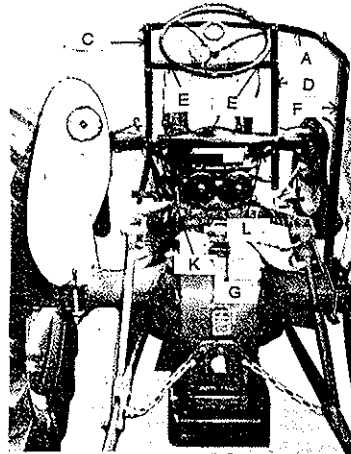

FIGURE 3
4. Bolt (D) #712585301 right yoke support to the door post top brackets and also to the door post bottom bracket. There are 2 holes, approx. 1" apart on the lower end of the right yoke support for attaching the door post bottom bracket. See Figure 3. (For 600 & 601 Series use the upper hole for the door post bottom bracket.) (For 800 & 801 Series use the lower hole for the door post bottom bracket.)
8. Insert (F) #712585801 right side arm in hem at right side of cover. Bolt top end to yoke. Fasten lower end to right axle with (G) #712585901 axle strap and two 3/8" x 6" machine bolts. See Figure 3.